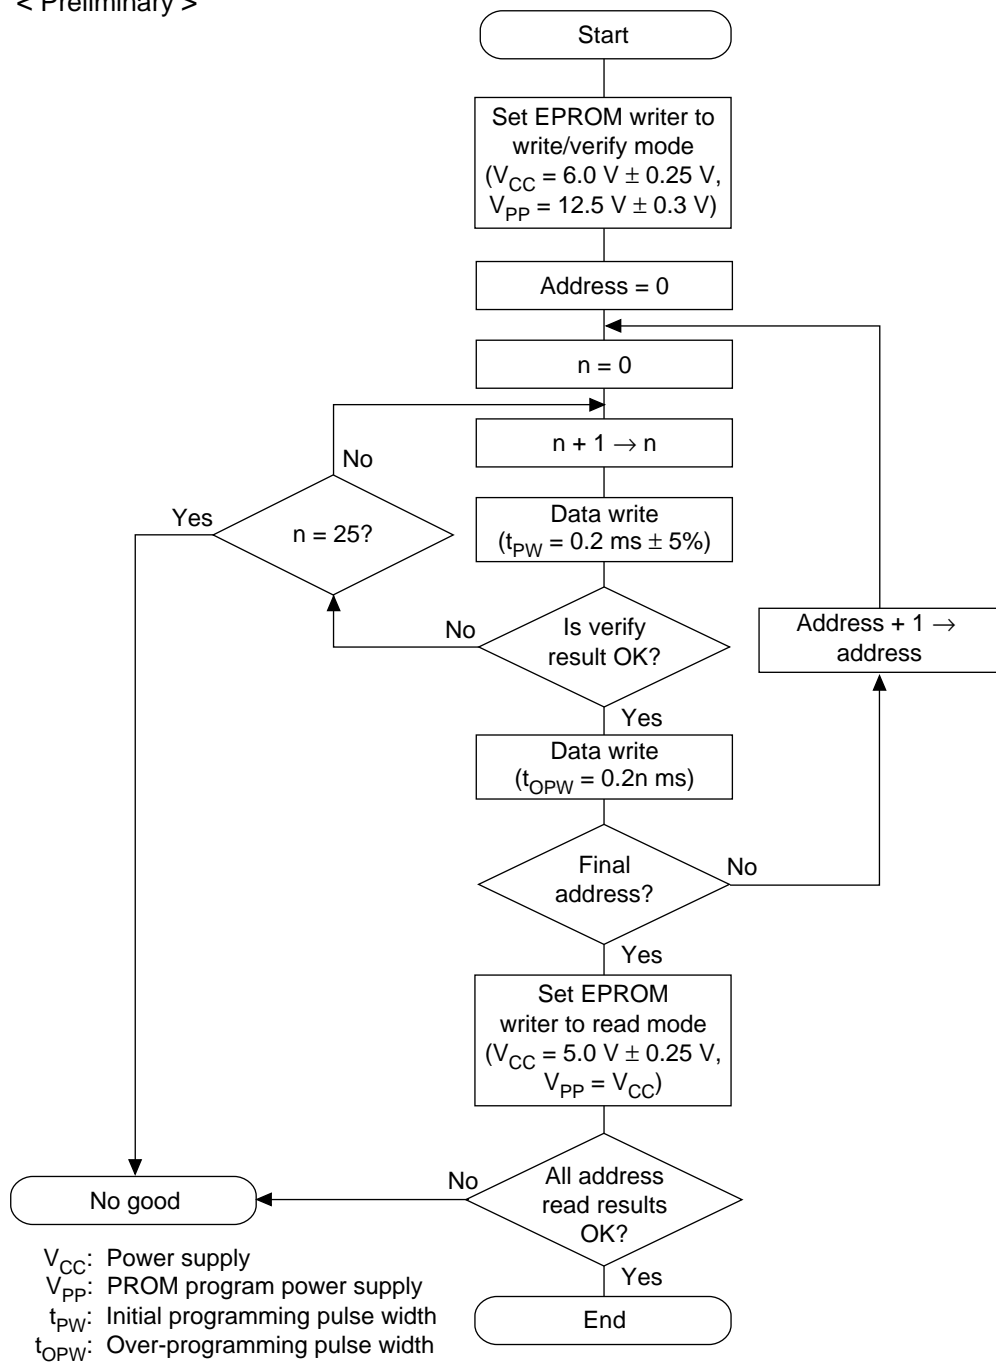

Figure 21.6 High-Speed, High-Reliability Programming Basic Flow
Write/Verify: Writing and verification can be done using an efficient high speed, high reliability programming format. This format allows data writing that is both fast and reliable without applying voltage stress to the device. Figure 21.6 shows the basic flow of the high speed, high reliability programming format.
*3 t_{OPW} is defined by the values noted in the flowchart (figure 21.6).